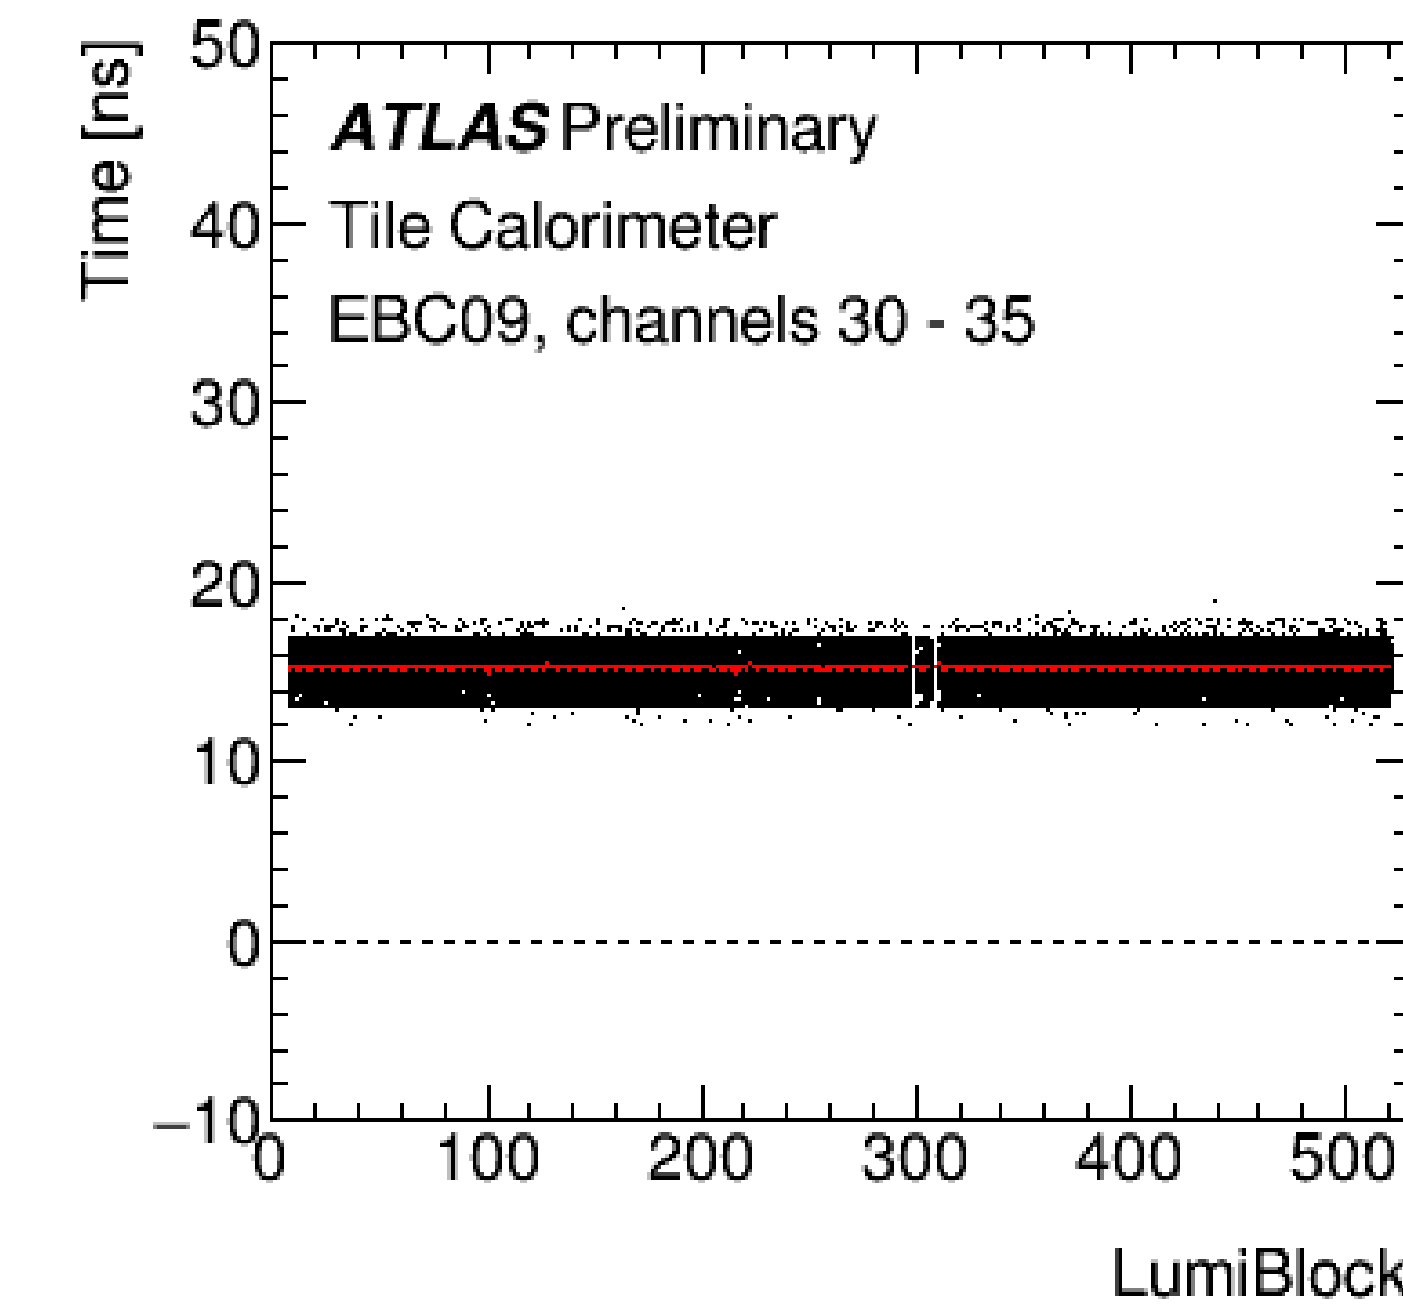
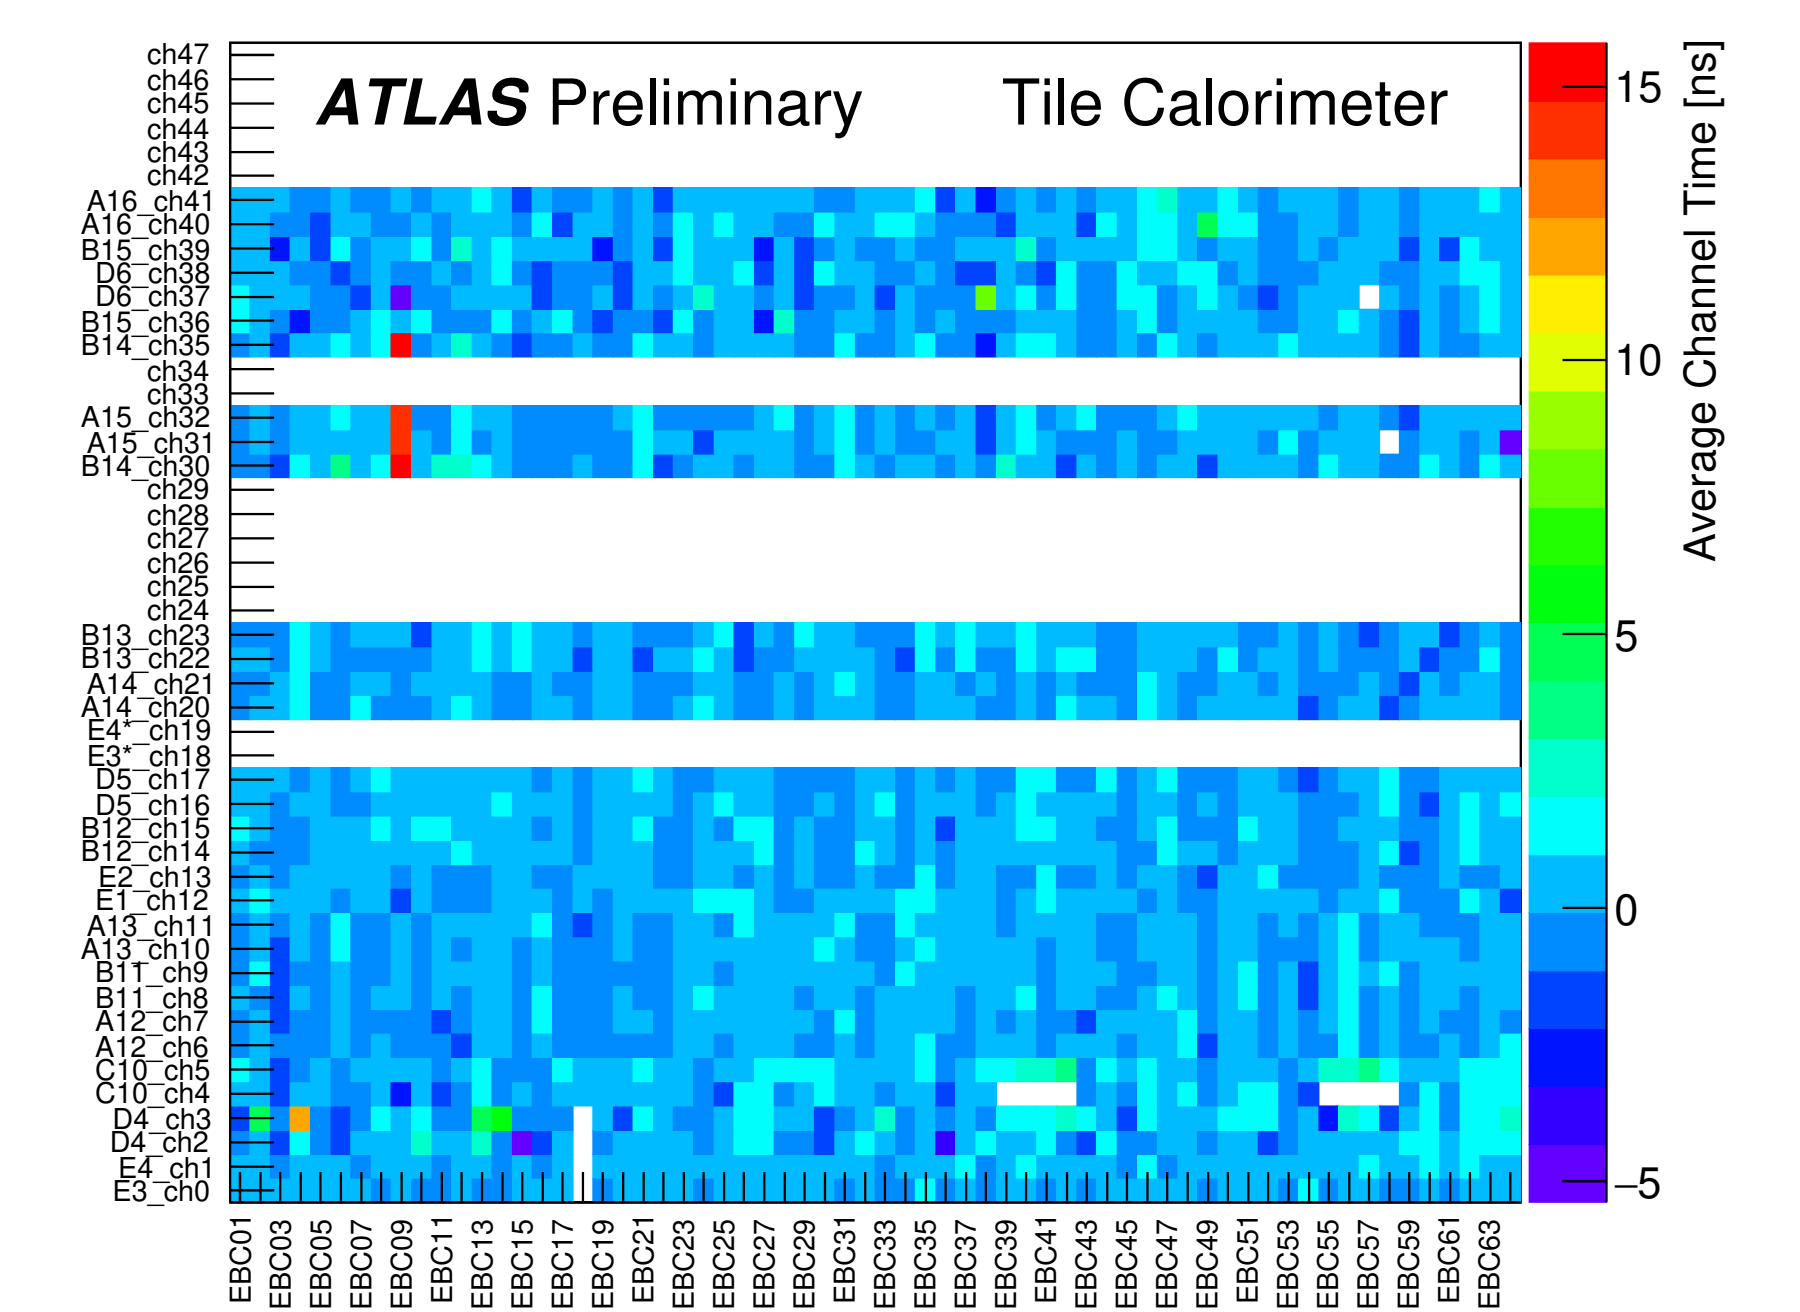

Fig. 3: Jump observed in laser-in-gap
Fig. 4: Jump observed in physics
- Reconstructed time and luminosity block of each laser event (Fig. 3, 5)
- Time monitoring using pp collision data — average time for each channel (Fig. 4)
- gap events (Fig. 3), later confirmed in the physics events (Fig. 4)